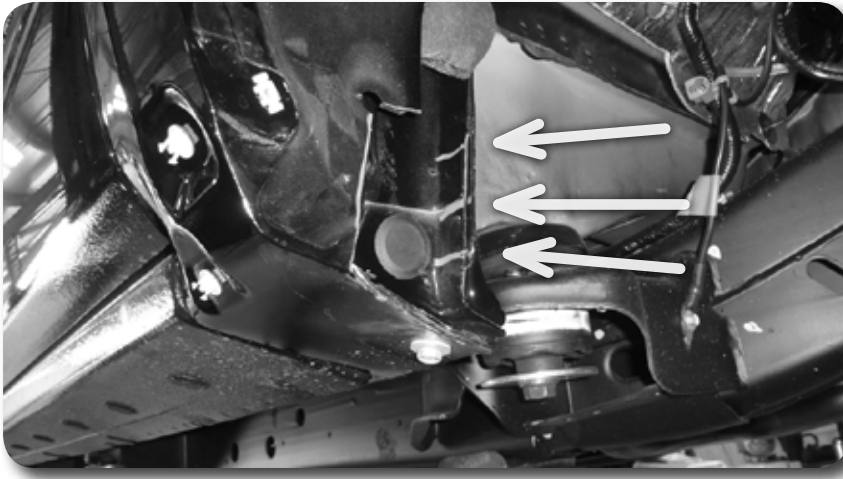
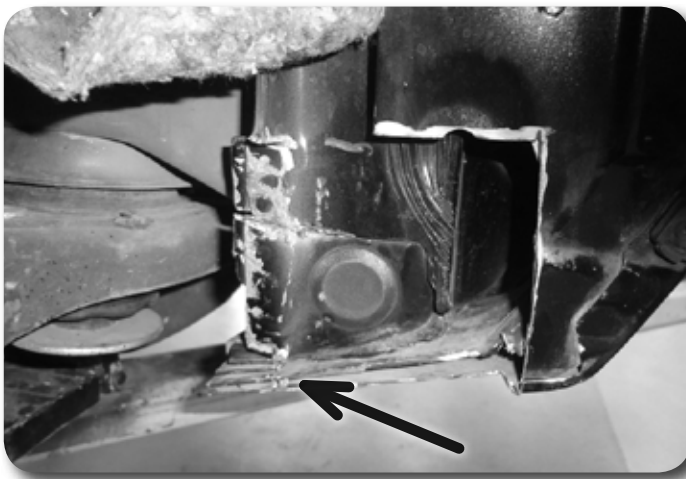

Figure 5A
Figure 5B
8. Cut 3 slices along the pinch weld seam and using vice grips or a hammer, carefully fold the seam towards the inside of the truck **Figure 5A**. The formed joint should now be flat with the body **Figure 5B**. The bottom triangle portion will need to be cut off in order to fold over the seam as shown in **Figure 5B**.